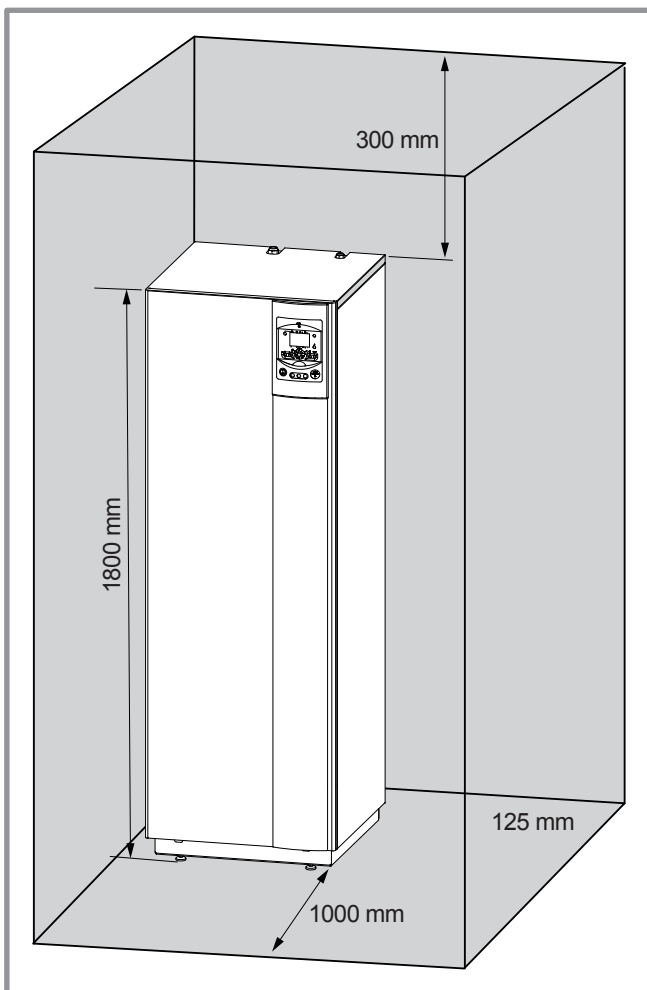

figure 14 - Minimum installation clearances around the hydraulic module and distances to the combustible partitions
- To facilitate maintenance and to allow access to the various components, we recommend that you provide sufficient space all around the hydraulic unit (figure 14).